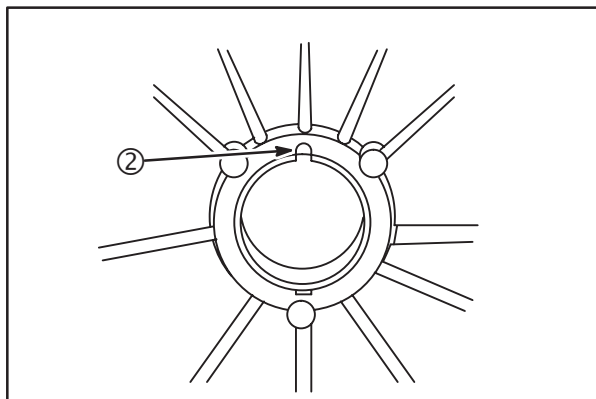

Fig. 8
4. Stake bearing in top notch (2) with 1/8" round pin punch to prevent bearing from turning, **Fig. 8**.